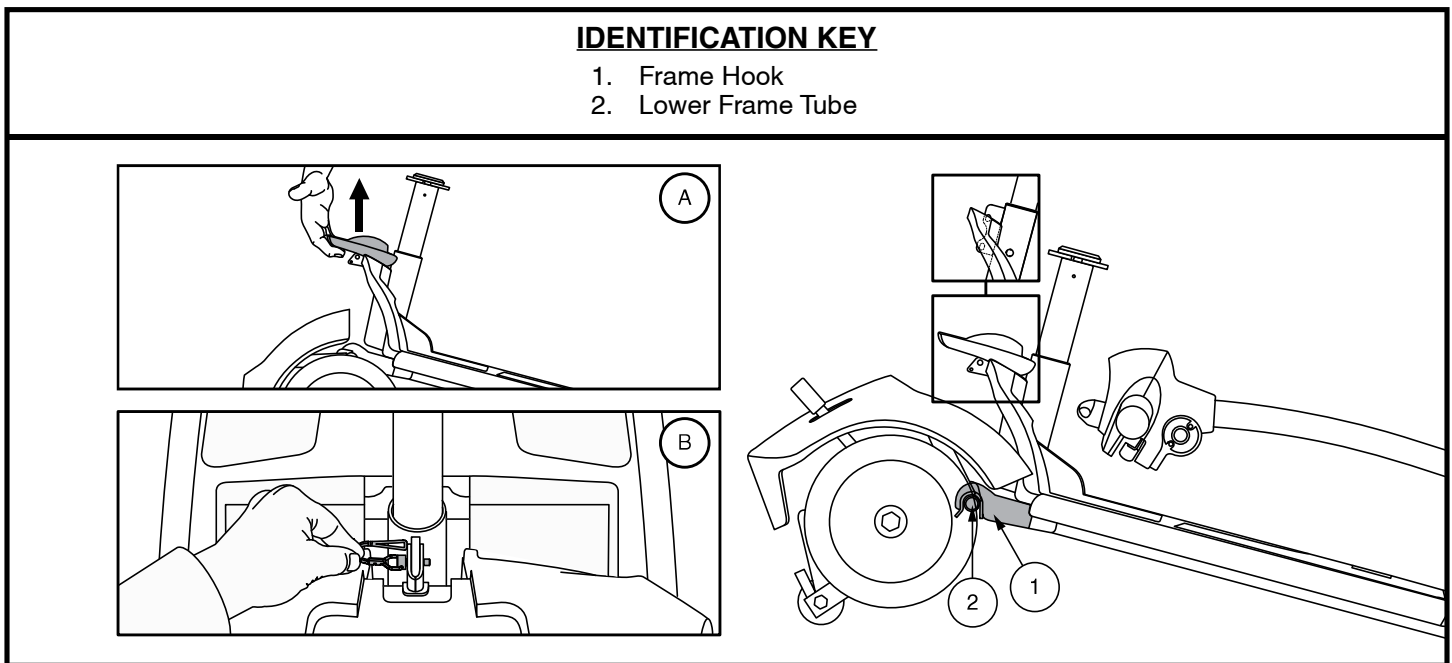

Figure 33. Frame Release Lever (Style A) and Frame Release Lock-up Pin (Style B)
4. Slowly separate the two sections of the Travel Scooter. See figure 33.
NOTE: Before attempting assembly, tilt the rear half of the Travel Scooter slightly back on the anti-tip wheels as shown in figure 33.
1. Use the frame release lever (or the seat post for models 29, 36, 336, 83, and 84 only) to lift the front section as you align the frame hooks of the front section with the lower frame tube of the rear section. See figure 33.
2. Once the frame hooks are over the lower frame tube, lower the front section and pivot the rear section simultaneously. This will engage the frame lock-up automatically for models AAP4, 39, 40, 44, 40LX, 40X, 44X, 40E, 44E, 44LX, 49, 50LX, 50LXLIT, 54LX, 54LXLIT, 53, 53HD, 54, 54HD, 66, 67, 73, 74, and Jazzy ZTS. For models 29, 36, 336, 83, and 84, you will also need to reinstall the frame lockup pin to complete the body assembly. See figure 33.